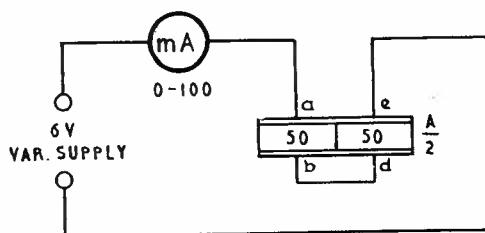

FIG. 1.
- STEP 1. Connect the circuit as shown in Fig. 1. (This doubles the number of turns on Relay 1, in comparison to Project No. 41)